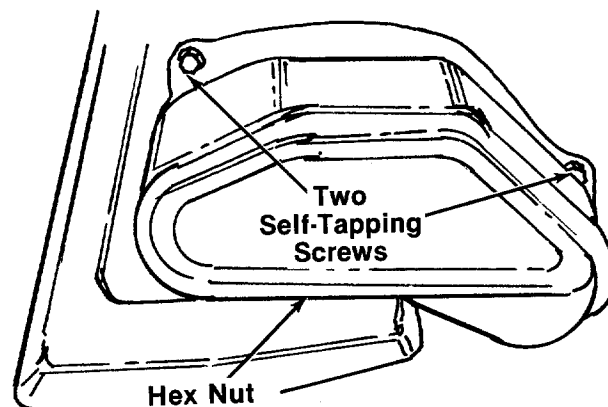

FIGURE 18.
1. Remove the belt cover by removing the two self-tapping screws, and one hex nut. See figure 18.